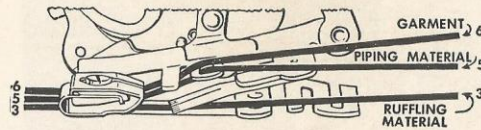

Fig. 67. Correct Positions for Materials
1. Insert material to be ruffled between two blue blades **Line 3**, Fig. 67. This material must not exceed  $1\frac{1}{4}$  inches in width.
2. Piping material is usually cut on the bias and it should be about  $\frac{1}{4}$  inch wide when folded in center. Place piping material in ruffler, following **Line 5**, Fig. 67 with folded edge of piping to the right.
3. Fold edge of material to which piping and ruffling are to be attached and insert it in ruffler, following Line 6, Fig. 67.